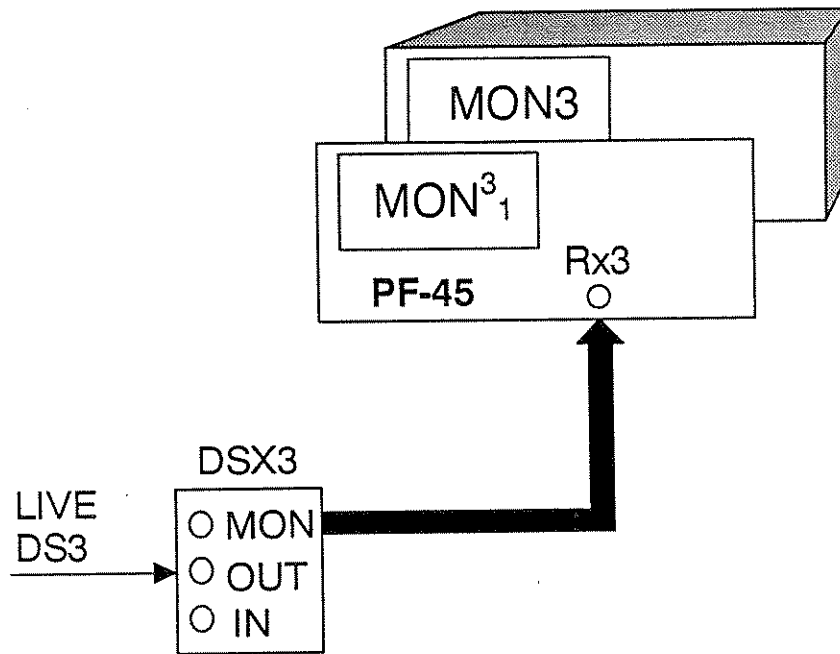

Figure 4-1: MON3 & MON31 Modes
The PF-45 has three dedicated monitoring modes. [MON3] and [MON31] modes (Fig 4-1) measure and analyze simultaneously the following DS3 parameters: DS3 BPV's, DS3 frame, parity, C-parity, and FEBE errors, as well as logging and counting as event seconds: DS3 No Signal, DS3 No Frame Sync, DS3 AIS, DS3 Idle, and DS3 X-bit. Analyses include Error Count, Current and Average Bit Error Ratio, Errored Seconds, Threshold Errored Seconds, and % Error-Free-Seconds. [MON31] mode also drops a selected DS1 from the DS3, adding the following DS1 parameters: DS1 frame and CRC-6 errors, and logging DS1 No Signal, DS1 No Frame Sync, DS1 AIS and DS1 Yellow Alarm events. [MON1] mode monitors a DS1 line signal (Fig 4-2), and includes DS1 BPV's in the above list of DS1 parameters.
1. - Connect the PF-45 DS3 receive jack [12] to the monitor jack at the DSX cross-connect panel with the appropriate cable, as shown in Figure 4-1.